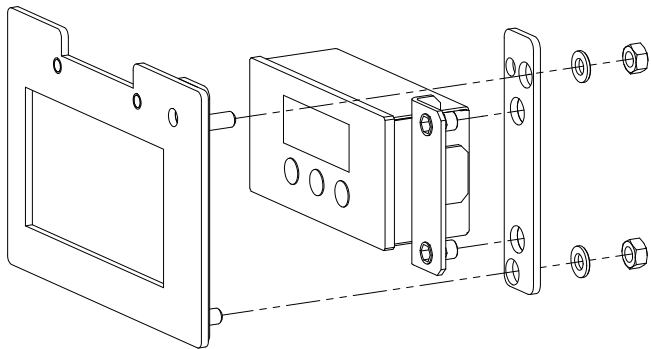

Fig.2
- Install the supporting plate included with the washers and nuts to the electronic (Fig.2).
- To allow for easier installation of the OEC, turn the rotating portion of the appliance all the way to the left / right using the footrest (see Instruction Pico Compact, Fig.2). Release the arrest of the footrest; see Instruction Pico Compact, chapter „Stove rotating“.